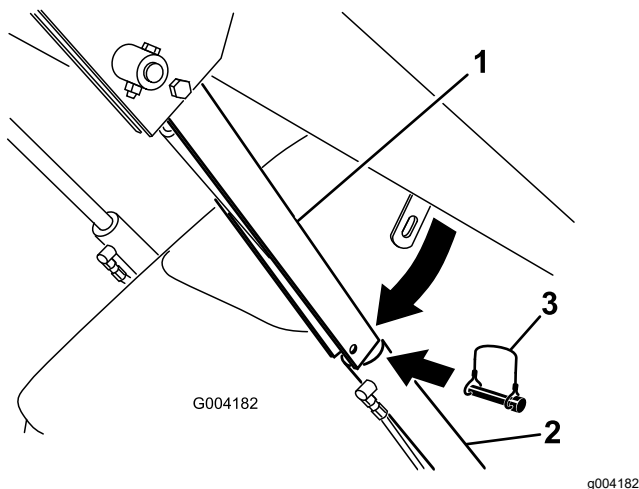

Figure 26
4. Remove the lynch pin securing the cylinder lock to the loader arm (Figure 26).
5. Lower the cylinder lock over the cylinder rod and secure it with the lynch pin (Figure 26).